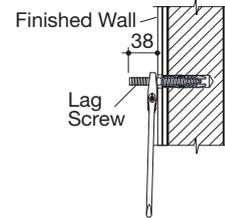

Fig 5
- 3- Insert expansion fasteners into the drilled holes if required. Screw Lag Screw into the wall using the flats located on the screw section of the stud and spanner as shown in **Figure 5**. Allow 38mm of thread to protrude from the finished wall.